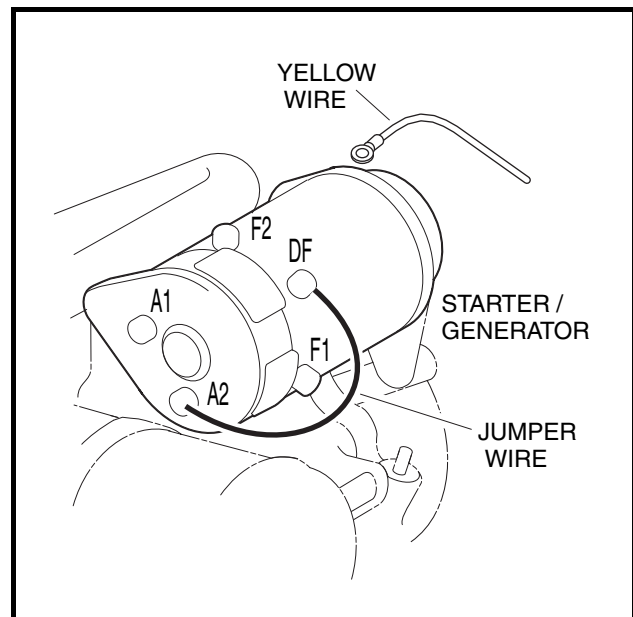

Figure 11-18 Jumper Wire Ground DF to A2 – Model G425419 shown
3. Disconnect the yellow wire from the DF terminal on the starter/generator. Cover the connector on the yellow wire to make sure the yellow wire will not short to ground. Then, using a jumper wire, ground the DF terminal to the A2 terminal (**Figure 11-18, Page 11-19**).